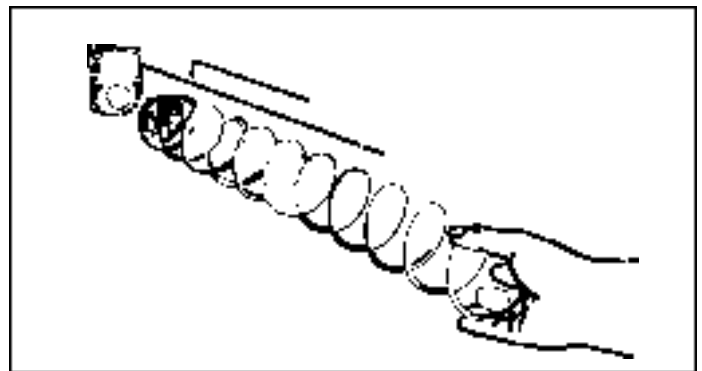
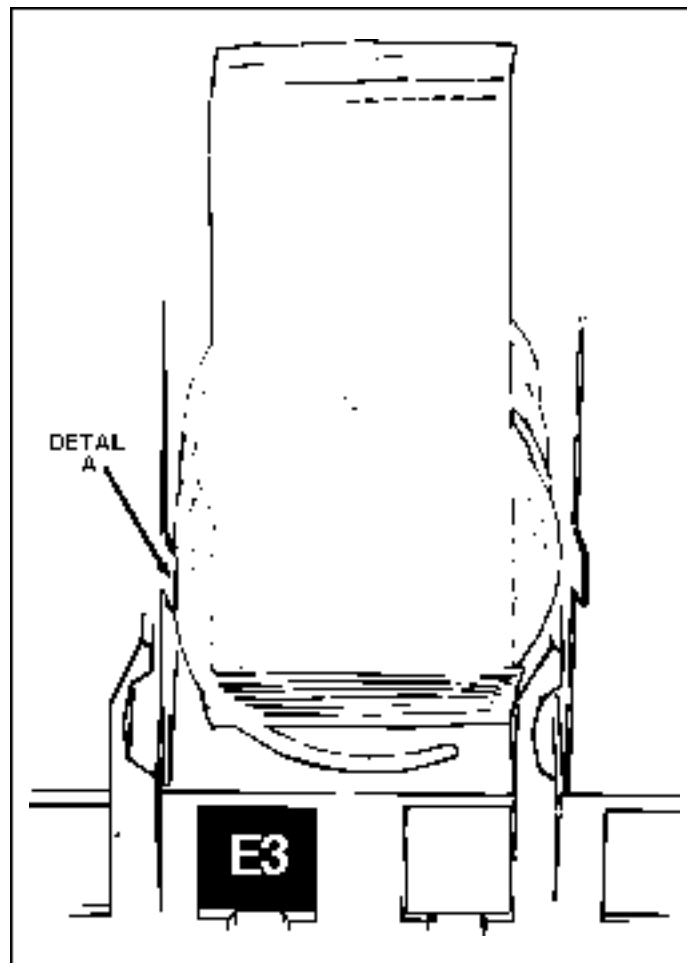

Figure 3. Removing and installing spiral.
Figure 5. Placement of product on main product candy shelves and front end position of spiral.
4. **Removal of Spiral.** Grasp the front of the spiral and turn it clockwise. Lift the spiral up and off of the spiral lock and turn the spiral counterclockwise to lock it in place. Be sure the front end of the spiral is positioned properly (with the front end of the spiral pointing downward on the left side). (Figure 3.) The spiral lock is attached between the spiral retainer tabs. Give a light forward pull on front of the spiral to check if it is locked in place.
6. **Loading Main Product Candy Shelves.** The 10-selection (candy type) shelves are loaded similar to the 5-selection shelves, except that, the bottom of the product sits on the shelf in front of the spiral wire (Figure 5.) that rests on the shelf. These products must also fit properly in the spiral space. **Do not force product into spiral.** These spirals are removed and installed the same as the large spiral (Figure 3.), except that, the front end position is different (approximately 5 o'clock) (Figure 5.) and the front left side of the spiral must be behind the small tab located on the left side of the product space side wall. (Figure 5., Detail A)